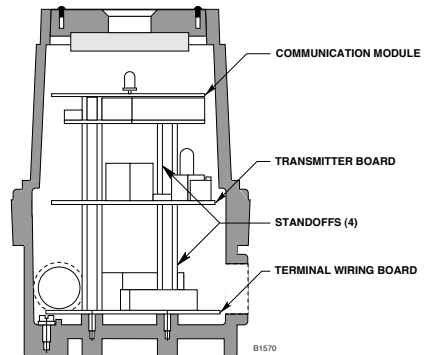

Figure 3-53—Printed Circuit Boards in Combustible Gas DCU
*Be sure to note the correct orientation of the transmitter board. If the transmitter board is rotated 180° from proper orientation, the device will not operate correctly — a LON communication fault will result. See Figure 3-53.*